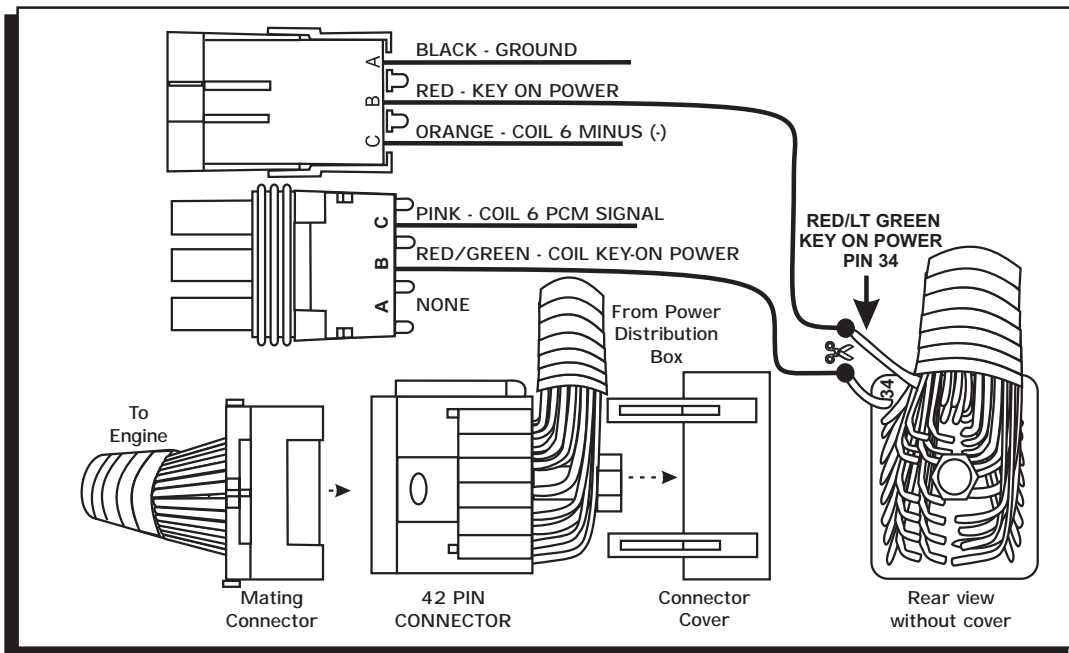

FIGURE 2 COIL POWER WIRING
**STEP 2: WIRING CONTROLLER POWER & COIL + INTERRUPT (SEE FIGURE 2)**